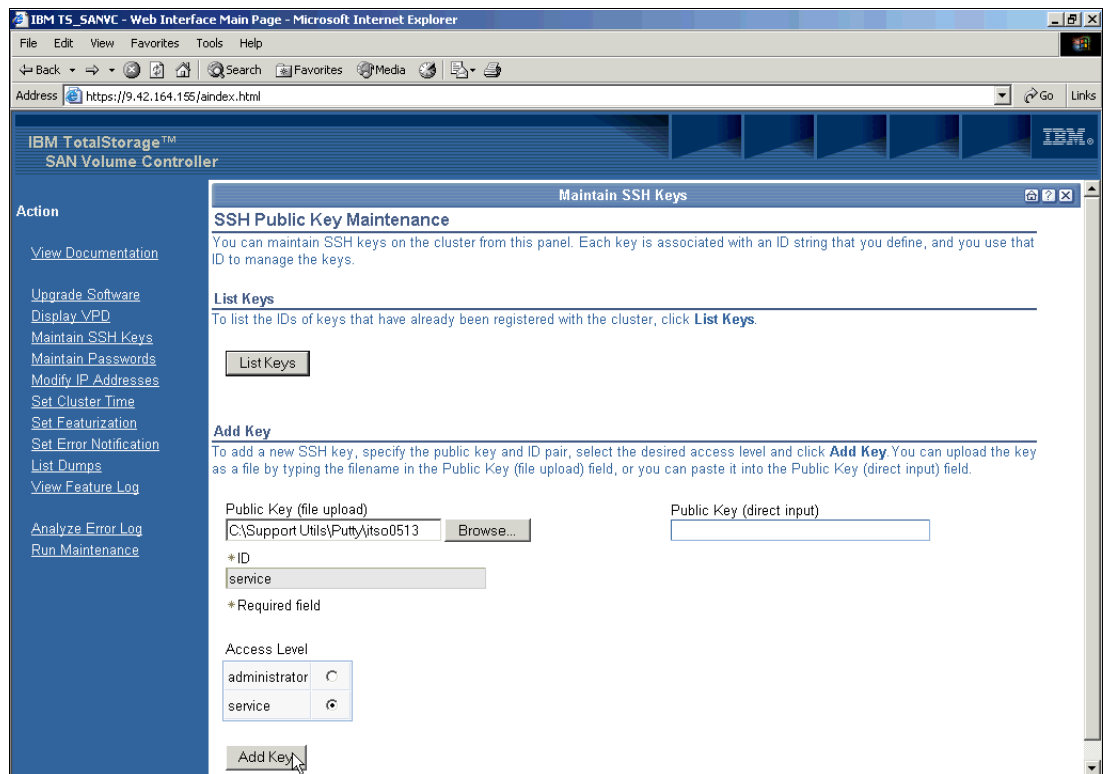

Figure 9-87 SSH Public Key Maintenance
- If you want to add a key, complete the appropriate information as shown in Figure 9-87, and click **Add Key**.